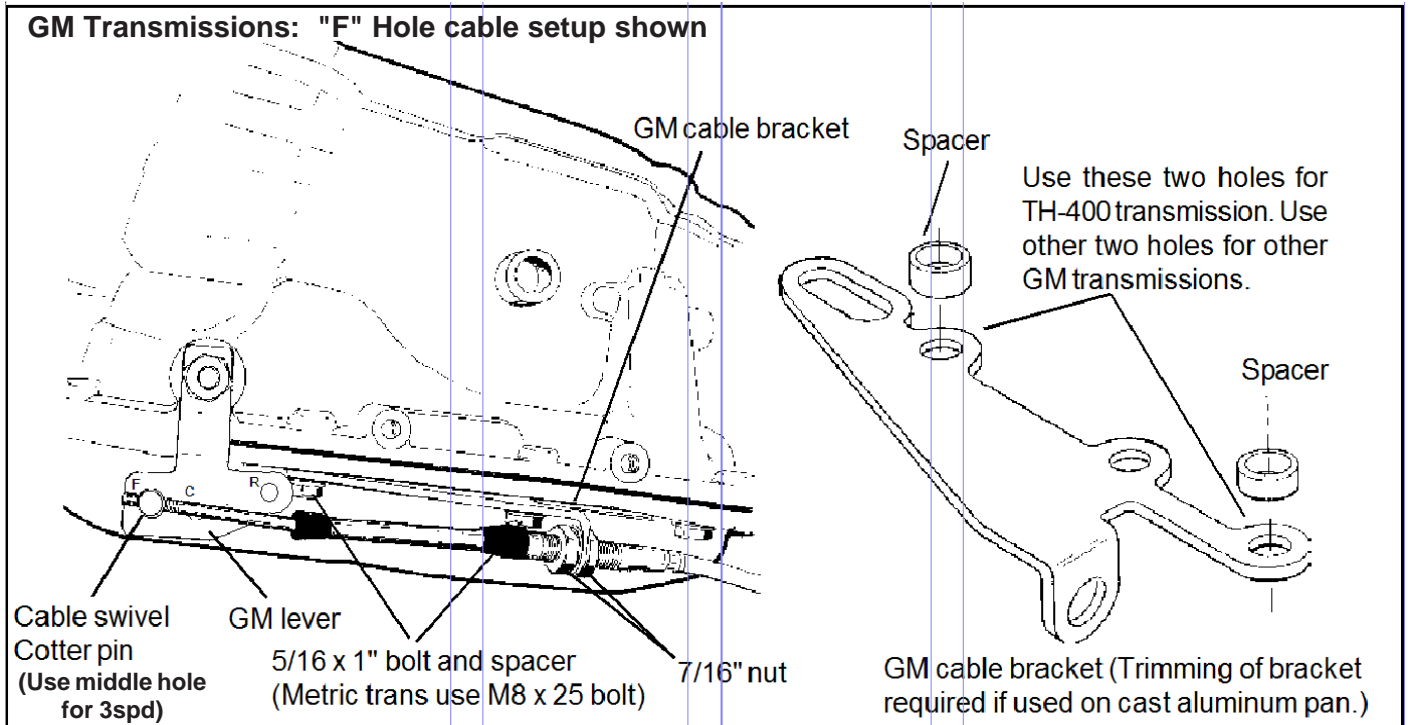

Figure 4
STEP 11. If you have not already done so, remove the stock selector lever nut and selector lever from the transmission. Discard the stock lever and the stock shifter linkage. Install the B&M selector lever in position using the stock selector lever nut (See Figure 4). Torque the nut to 23 lbs.ft. The lever should move smoothly from front to rear with a positive click in each gear position.
STEP 12. Remove two transmission oil pan bolts from the middle of the left side of the oil pan. Install the cable bracket in position (See Figure 4). The bracket must be installed with two spacers between the pan and the bracket. (If your transmission is equipped with a cast aluminum oil pan, these spacers should be omitted. With a TH-400 with a cast aluminum oil pan the cable bracket may have to be modified.) Install the two 5/16-18 x 1.00" bolts (Metric transmissions use the two 8mm x 25mm bolts) supplied and tighten 12-13 lbs.ft. Do not overtighten as this can damage the pan gasket.